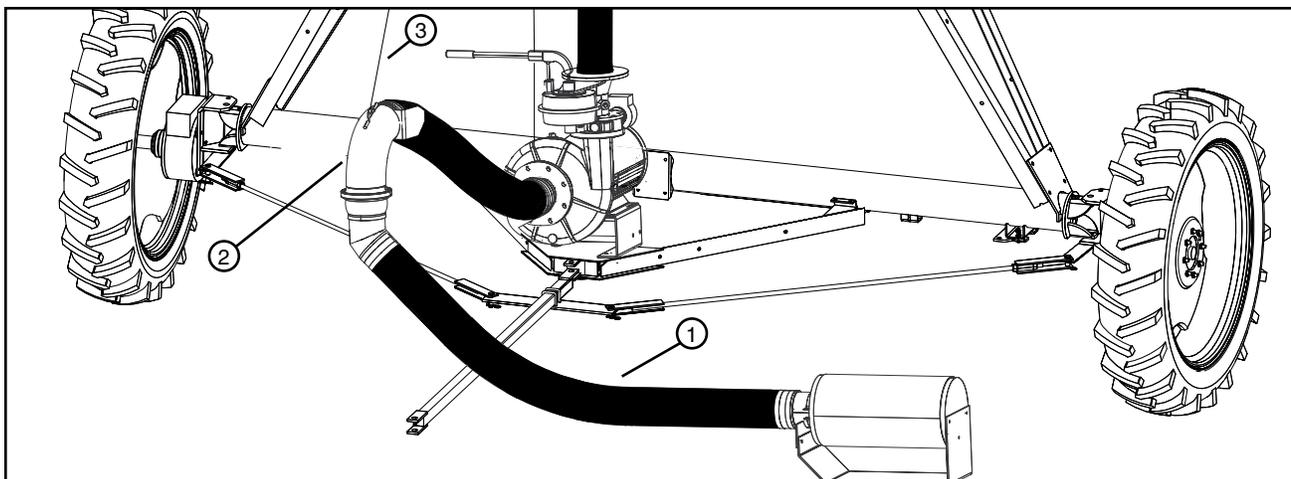

Figure 84-3 1. Inlet Suction Hose 2. Elbow Inlet (Inlet in Up Position) 3. Lift Cable
- Use the lift cable to lift the elbow inlet up. See Figure 84-3.
- Disconnect the inlet suction hose from the elbow inlet to prevent damage. See Figure 84-3.